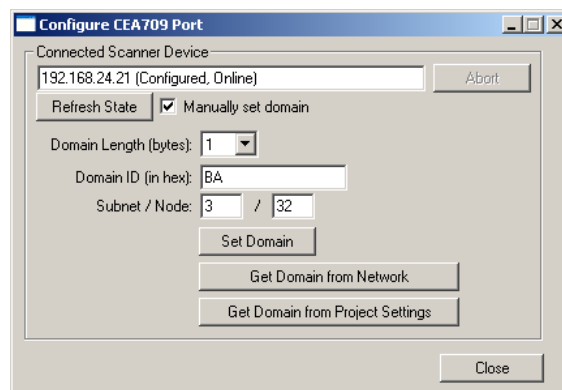

Figure 139: Configure CEA-709 port dialog.
- If the device has not been installed with a network management tool (e.g. LNS-based tool), press the **Configure CEA709 Port** button. This opens the device install dialog as shown in Figure 139.